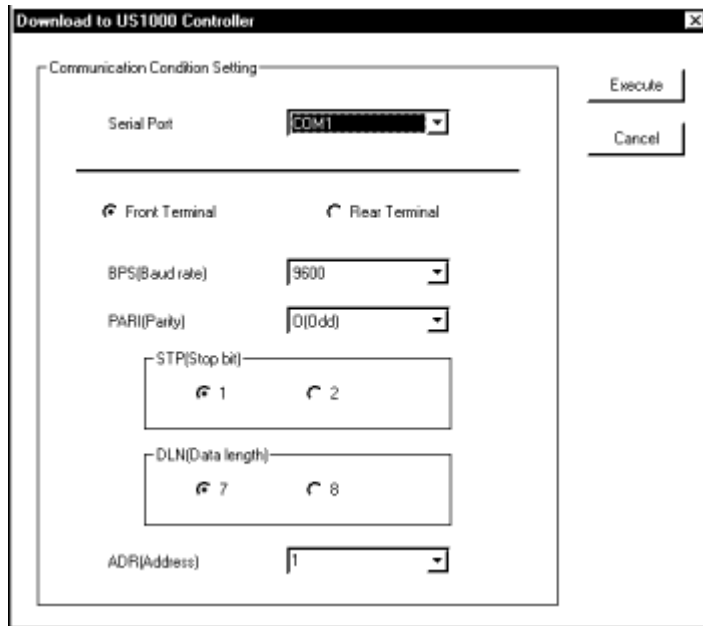

Figure 6.2.1 [Download to US1000 Controller] Dialog Box
- (1) From the tool menus, choose <Communication>, then <Download to US1000 Controller>. The [Download to US1000 Controller] dialog box (Figure 6.2.1) appears.
- (2) From the <Serial Port> drop-down list box, choose a communication port of the personal computer.
- (3) Click the <Front Terminal> option button.
- (4) After connecting the equipment, click the <Execute> button.
- (5) When downloading is complete, a message appears, informing that *parameter data have been downloaded to the US1000 controller.*
- (3) Click the <Rear Terminal> option button.
- (4) Set the RS-485 communication parameters: